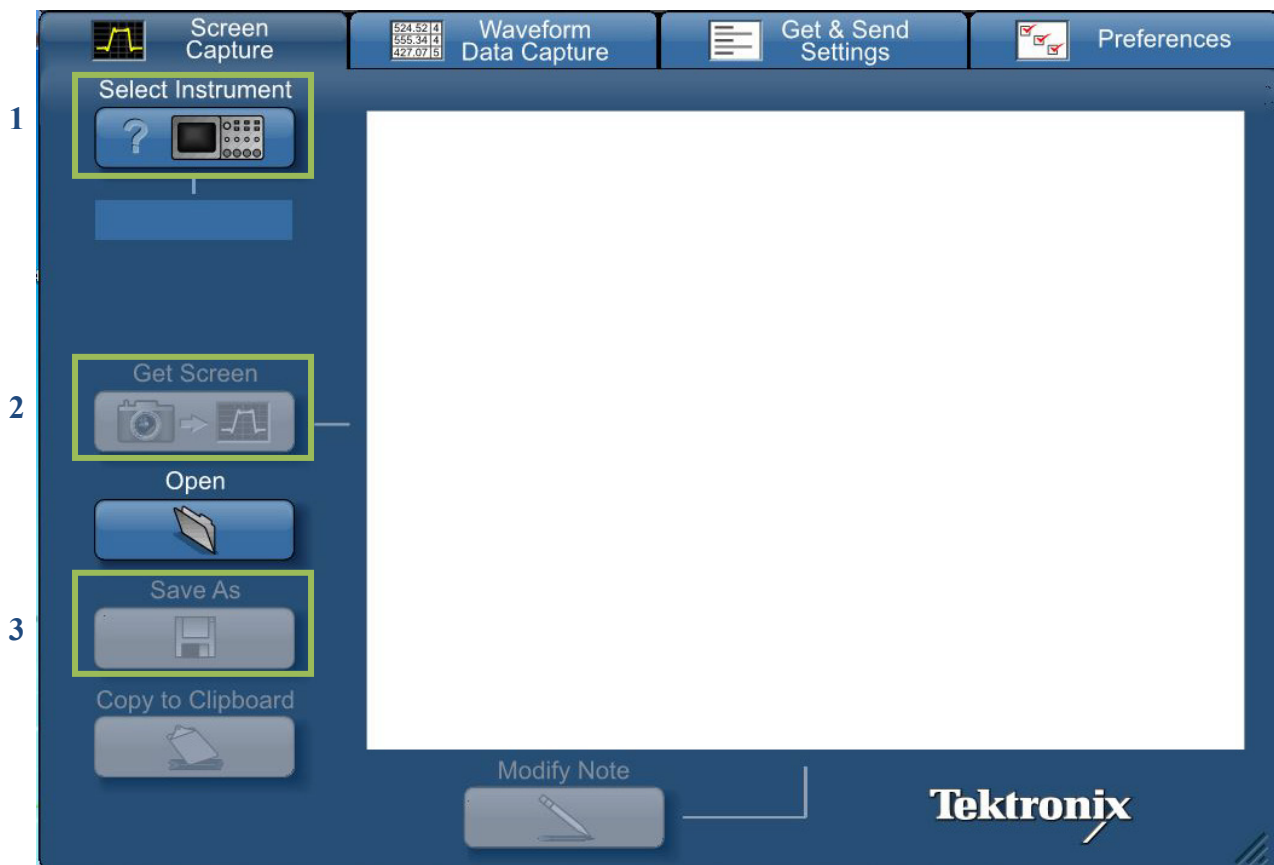

FIGURE 8: Screen shot of OpenChoice Desktop
The Tektronix TDS2004 oscilloscope has a program for acquiring a waveform on the scope to a computer. This application is called OpenChoice Desktop (FIGURE 8) and can be found in the start menu of your computer. To capture a waveform first connect the scope using "Select Instrument" (1), and then acquire the image with "Get Screen" button (2). Now you can save (3) and print the image (remember that print instructions are on the screen.)